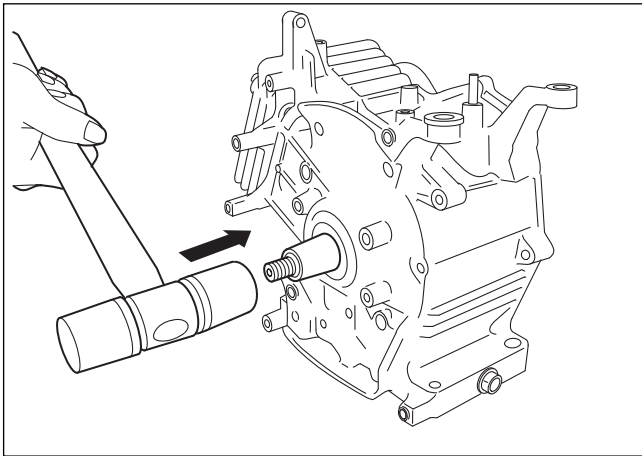

Fig.5-27
| 28 | Crankshaft | (1) Remove the woodruff key (for the flywheel magneto). (2) Remove the crankshaft from the crankcase by tapping its magneto side end with a plastic hammer, taking care not to damage the oil seal. (See Fig. 5-27) | Plastic hammer |